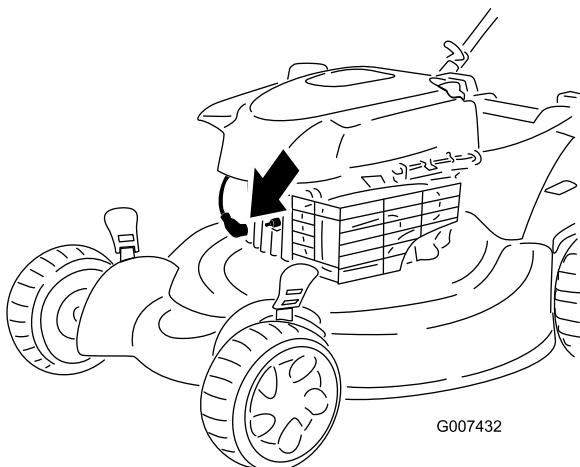

Figure 39
- Disconnect the spark-plug wire from the spark plug (Figure 39) before performing any maintenance procedure.